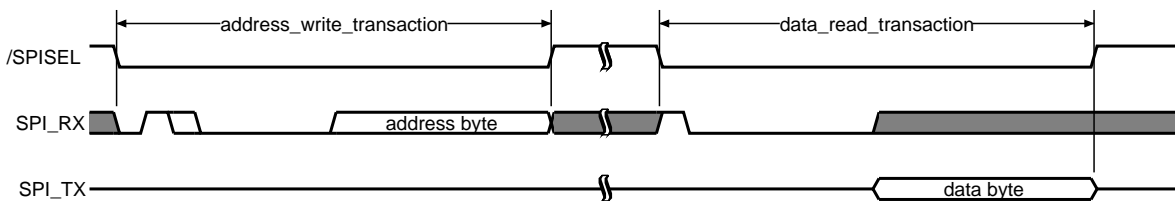

Figure 2.17: Register read access (transaction sequence)
1. A register read access is a sequence of one SPI write address transactions and one SPI read data transaction as shown in Figure 2.17. With the first transaction the SPI master specifies the register address (control byte is '01X0 CCCC'). Afterwards, XHFC-2S4U/4SU transfers the register value to the SPI master (control byte is '1000 0000').
Figures 2.17 to 2.19 show /SPISEL = '1' between the transactions. This splits the sequence into an address write transaction and one or several data read transactions. The split time has an arbitrary duration. It can also decrease to zero, which means that /SPISEL remains '0' for several transactions.